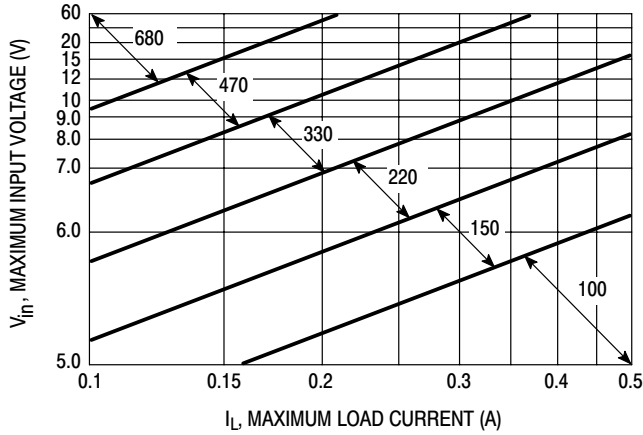
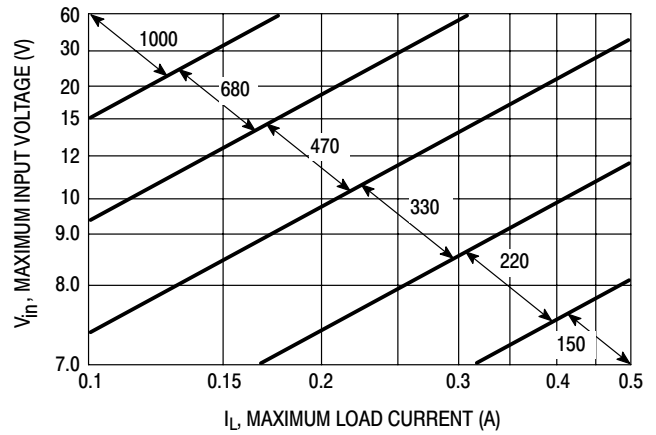

Figure 19. LM2574-3.3
Figure 20. LM2574-5
4. Inductor Selection (L1) A. According to the required working conditions, select the correct inductor value using the selection guide from Figures 19 to 23. B. From the appropriate inductor selection guide, identify the inductance region intersected by the Maximum Input Voltage line and the Maximum Load Current line. Each region is identified by an inductance value and an inductor code. C. Select an appropriate inductor from the several different manufacturers part numbers listed in Table 2. The designer must realize that the inductor current rating must be higher than the maximum peak current flowing through the inductor. This maximum peak current can be calculated as follows: $I_{p(max)} = I_{Load(max)} + \frac{(V_{in} - V_{out})t_{on}}{2L}$ where t_{on} is the "on" time of the power switch and $t_{on} = \frac{V_{out}}{V_{in}} \times \frac{1.0}{f_{osc}}$ For additional information about the inductor, see the inductor section in the "EXTERNAL COMPONENTS" section of this data sheet.	4. Inductor Selection (L1) A. Use the inductor selection guide shown in Figure 20. B. From the selection guide, the inductance area intersected by the 15 V line and 0.4 A line is 330. C. Inductor value required is 330 μ H. From Table 2, choose an inductor from any of the listed manufacturers.
To simplify the inductor selection process, an inductor selection guide for the LM2574 regulator was added to this data sheet (Figures 19 through 23). This guide assumes that the regulator is operating in the continuous mode, and selects an inductor that will allow a peak-to-peak inductor ripple current to be a certain percentage of the maximum design load current. This percentage is allowed to change as different design load currents are selected. For light loads (less than approximately 0.2 A) it may be desirable to operate the regulator in the discontinuous mode, because the inductor value and size can be kept relatively low. Consequently, the percentage of inductor peak-to-peak